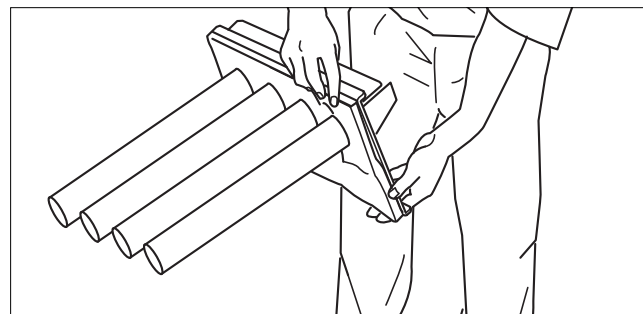

Fig. 36 Swinging burner
- Remove remaining water by swinging the burner (→ Fig. 36).